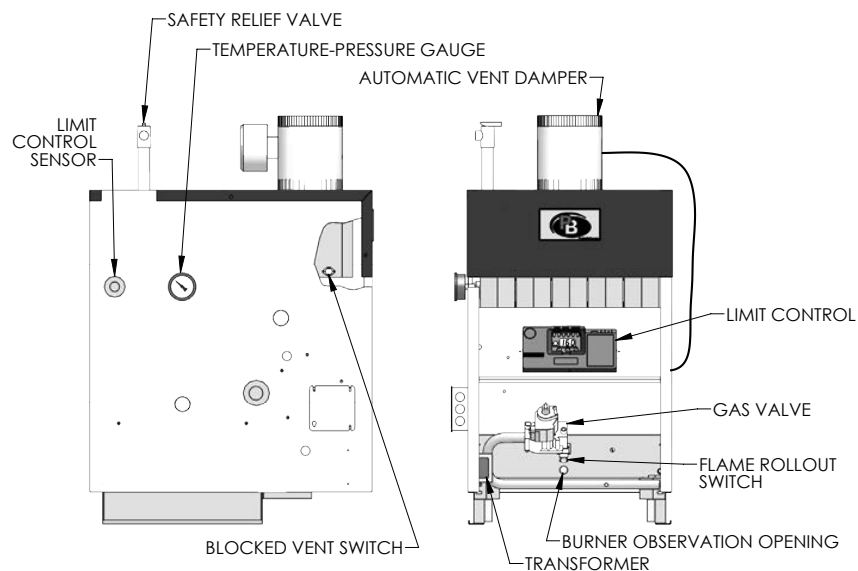
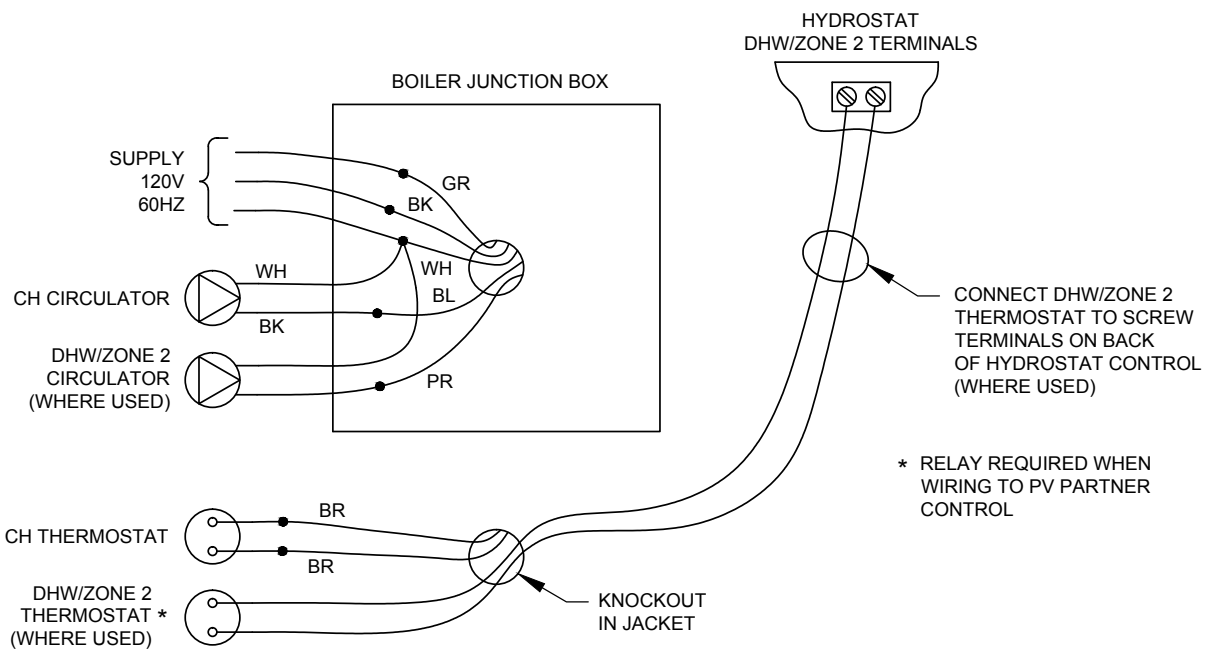

Figure 6.1: Wiring, Controls and Safety Devices
Figure 6.2: Field Connections
1. See Figure 6.1 for location of wiring and controls. Use Figures 6.2 and 6.5 to connect the boiler to a power supply and to connect components to the boiler.
3. Connect the vent damper harness to the damper motor as shown in Figure 6.1.
1. For proper location of controls and accessories refer to Figure 6.1 and Section 11.